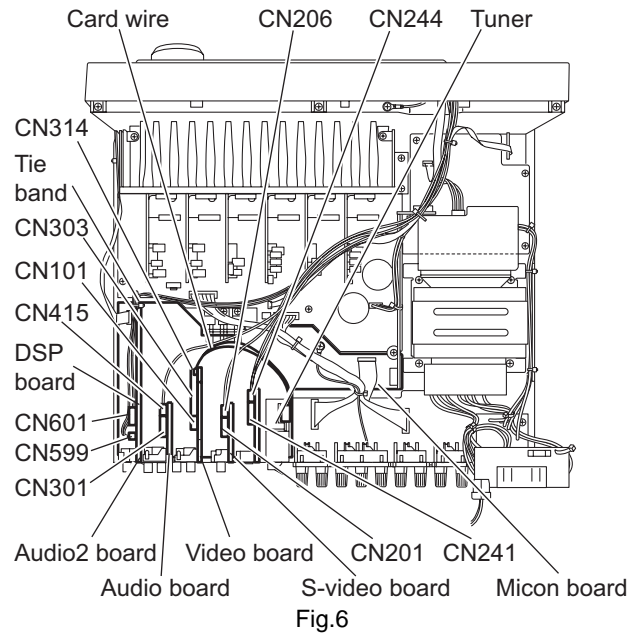

Fig.6
3.5 Removing the tuner, DSP board, Audio board, Audio2 board, Video board and S-Video board (See Fig.6)